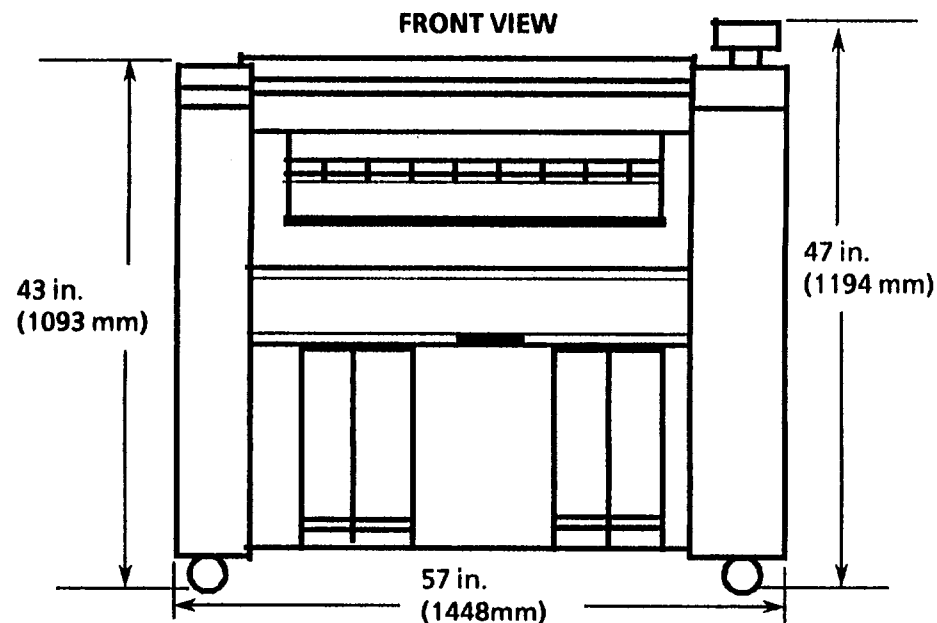

Figure 1. Minimum Space Requirements
2. (Figures 1 and 2): This shows the minimum allowable space requirements.